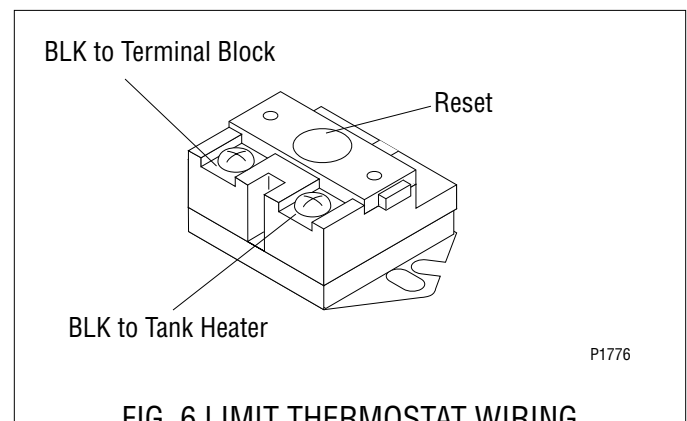

FIG. 6 LIMIT THERMOSTAT WIRING
4. Refer to FIG. 6 when reconnecting the wires.